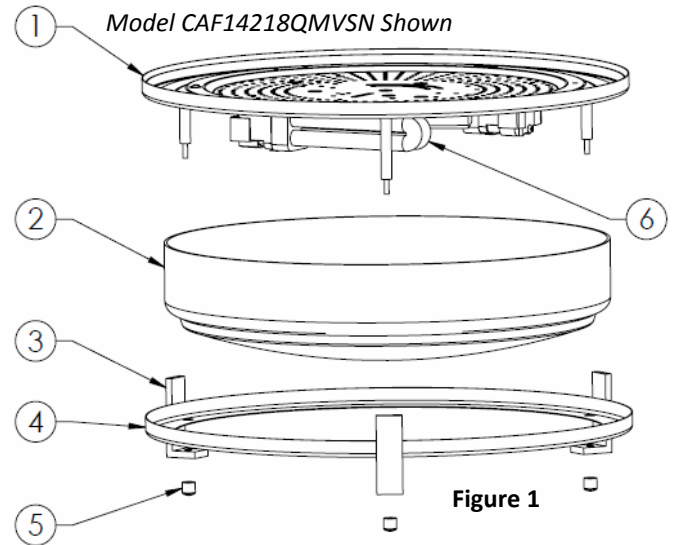

Figure 1
- B. Carefully remove the fixture from the carton, and check that all parts are included, as shown in Figure 1.